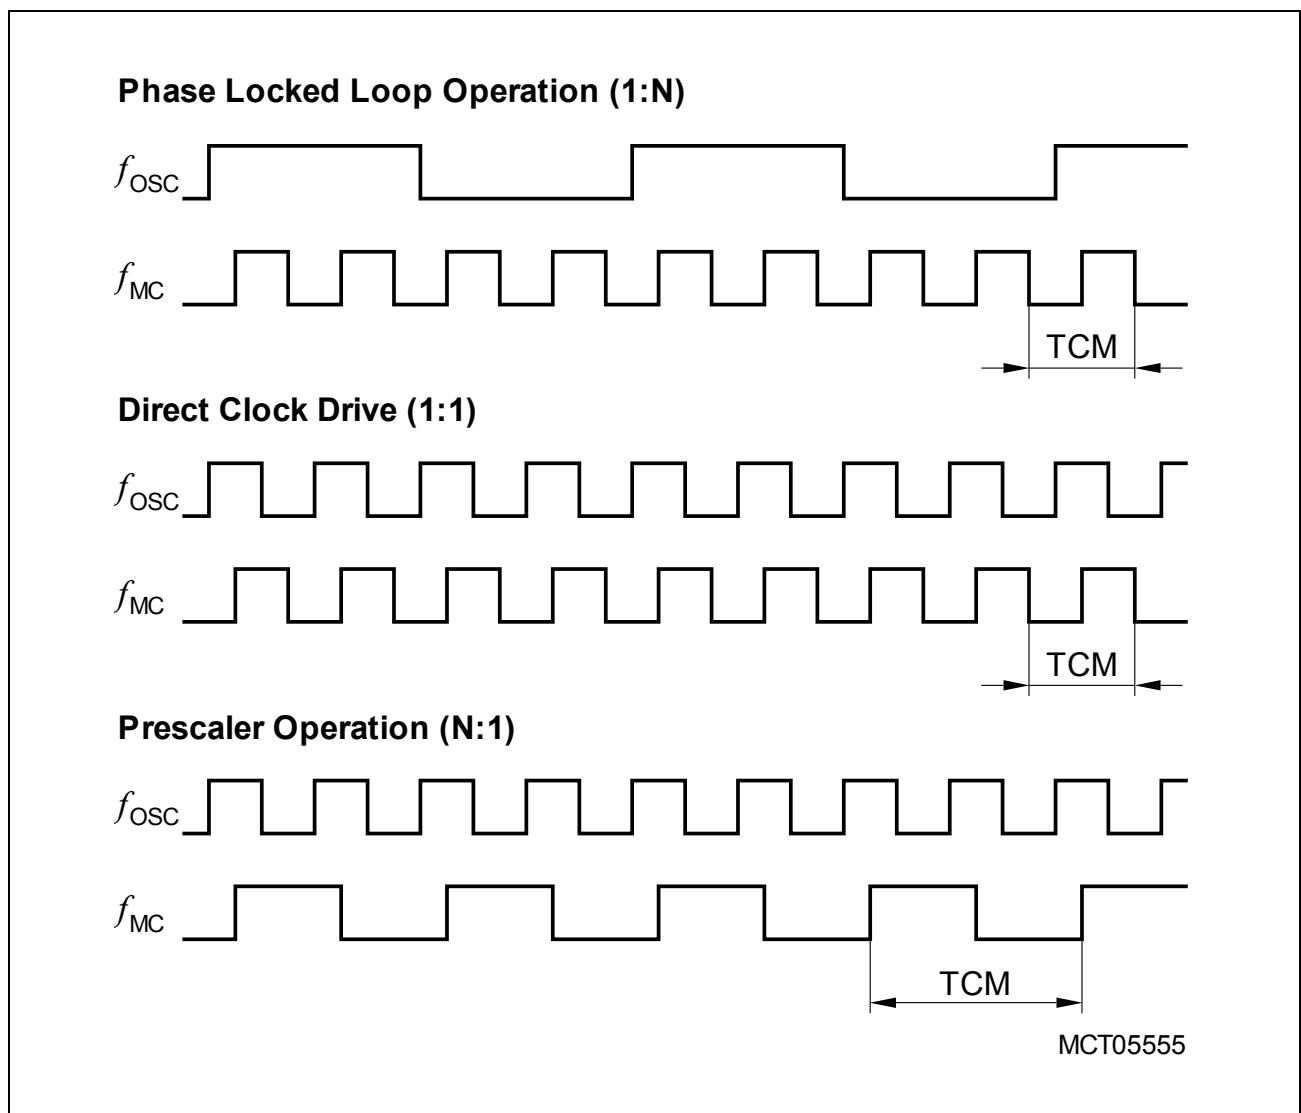

Figure 14 Generation Mechanisms for the Master Clock
*Note: The example for PLL operation shown in **Figure 14** refers to a PLL factor of 1:4, the example for prescaler operation refers to a divider factor of 2:1.*